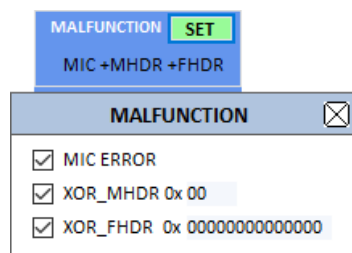

Fig 3.39 Malfunction configuration parameters
**Malfunction Editing** - Click the [SET] button in the MALFUNCTION area and select the types of error which you want to add like Fig 3.39. To generate an intentional MIC error, set MIC\_ERROR to ON. To modify the MAC header part, set MHDR\_ERROR to ON and configure the XOR\_MHDR value. XOR\_MHDR value is exclusive OR with MAC Header. To modify the Frame header part, set FHDR\_ERROR to ON and configure the XOR\_FHDR value. XOR\_FHDR value is exclusive OR with Frame Header.